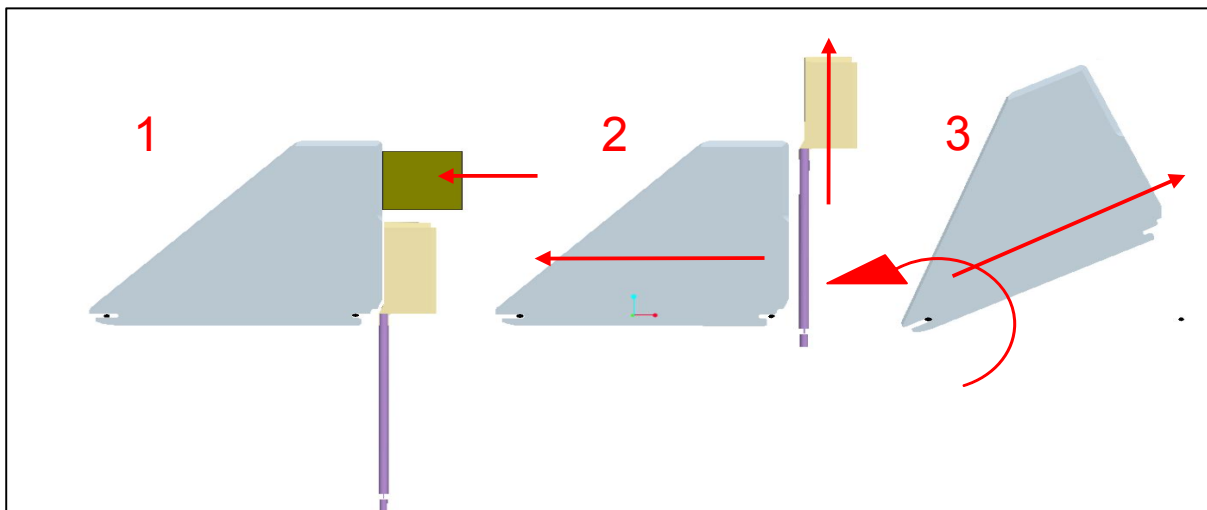

Fig.4 Removal of aluminum fin and rudder
7. Keep a block of wood or teflon on the trailing edge of the fin in area next to the hull (figure 4 - drawing 1)
8. Gently with a hammer tap on the Teflon, making the fin slide about 1 cm towards the bow and extract the rudder (Figure 4 - drawing 2)
9. Then lift the back of the fin a few degrees and pull aft (figure 4 - drawing 3)